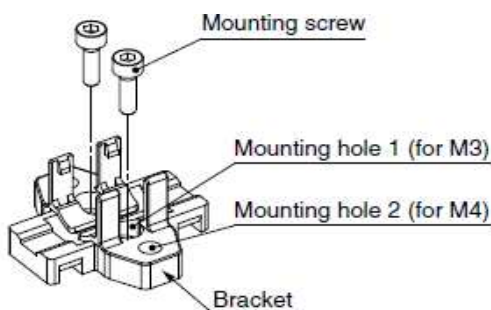

Fig. 6
- Mounting of the standard bracket (ZH18/20D· A) and adjustment of the vacuum (V) port
(1) The standard bracket for the ZH18/20D· A can be mounted by using either mounting hole 1 or 2 (Fig. 6).
(2) When mounting the product through mounting hole 1, mount the bracket to the installation surface first (Fig. 6).